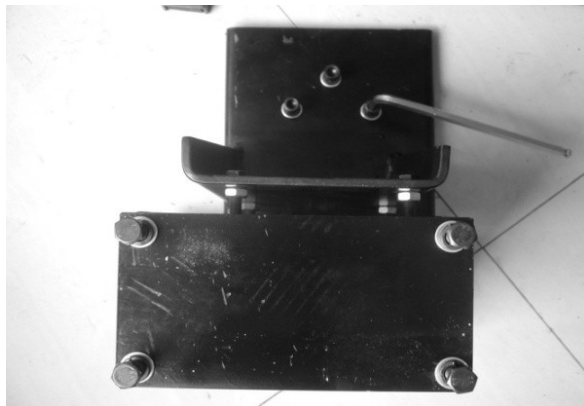

Fig 7-1
7.1.2 Detach the package of the PL330 assistant. Check the accessory according to the pack list. After confirmation, take out the base assembly (fig7-1) and remove the screw and washer on it.